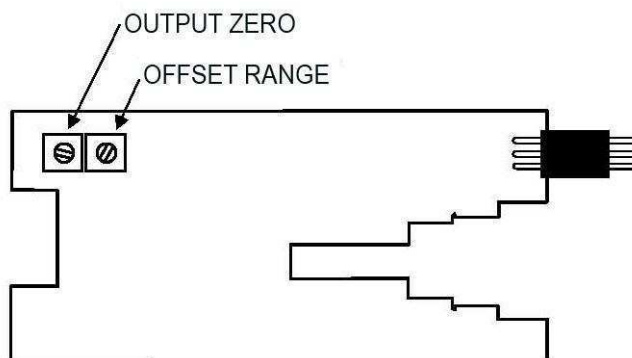

Figure 8 Adjustment Locations S/N 1000 and higher
6. Adjust **OUTPUT ZERO** on the board until the DMM reads $0\text{ V} \pm 100\text{ }\mu\text{V}$. Refer to Figure 8 **Adjustment Locations S/N 1000 and higher** for adjustment location.